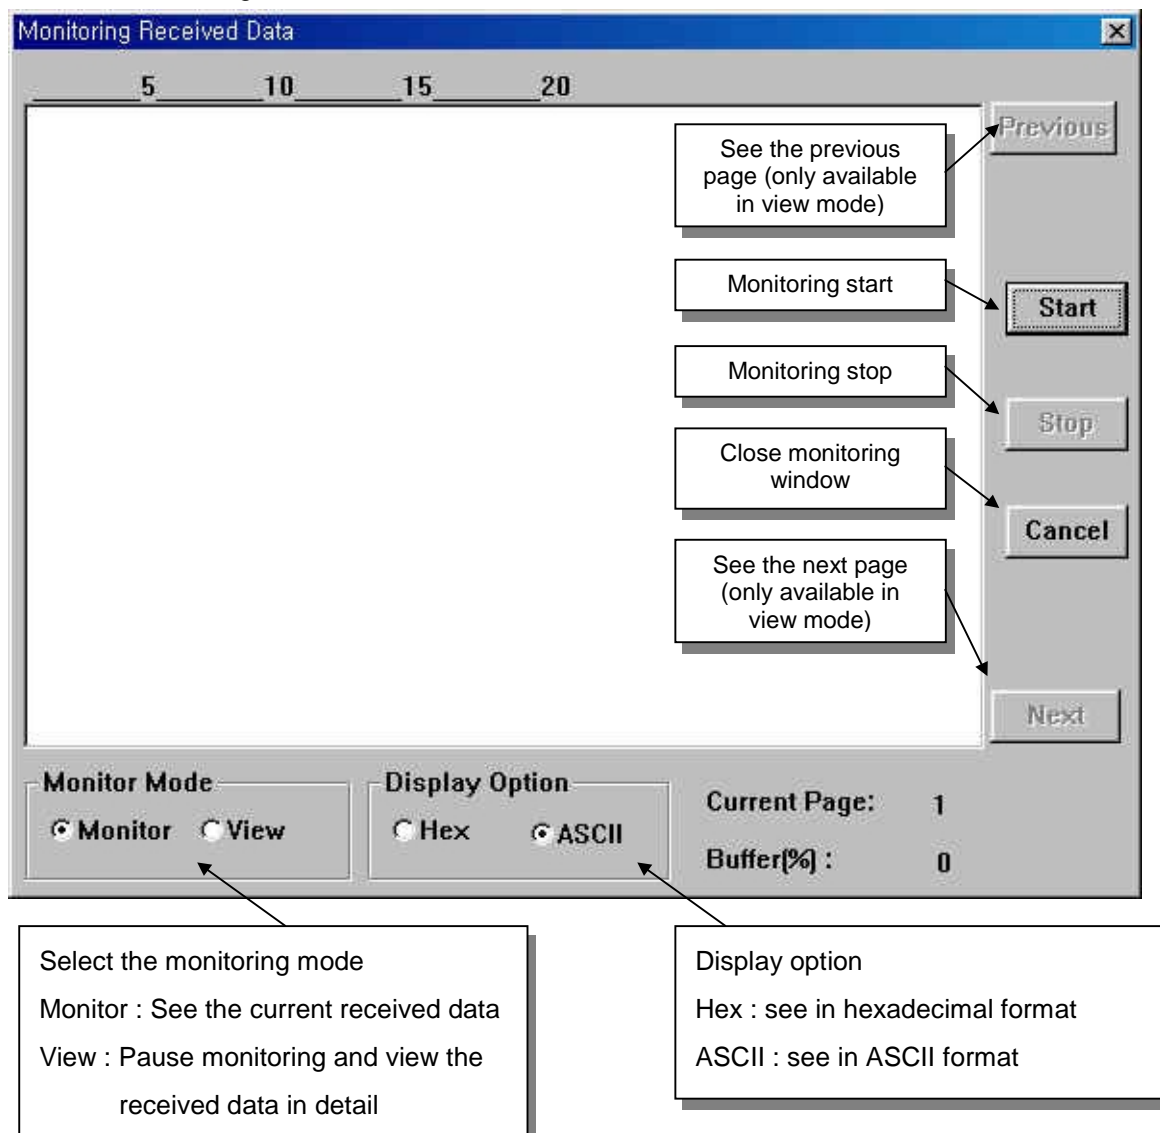

Fig. 6.22 Monitoring received frame
- ③ After the following screen appeared, press 'Start' button to start monitoring. The function of each buttons are similar with that of receive frame monitoring window. (see the figure 6.22)